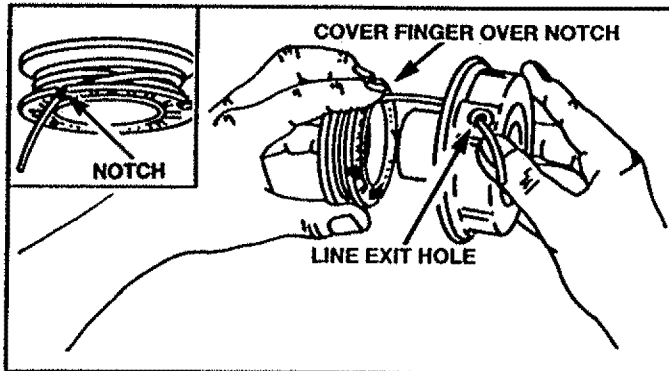

Figure 26
- Insert line into line exit hole in the hub as shown. Figure 26.